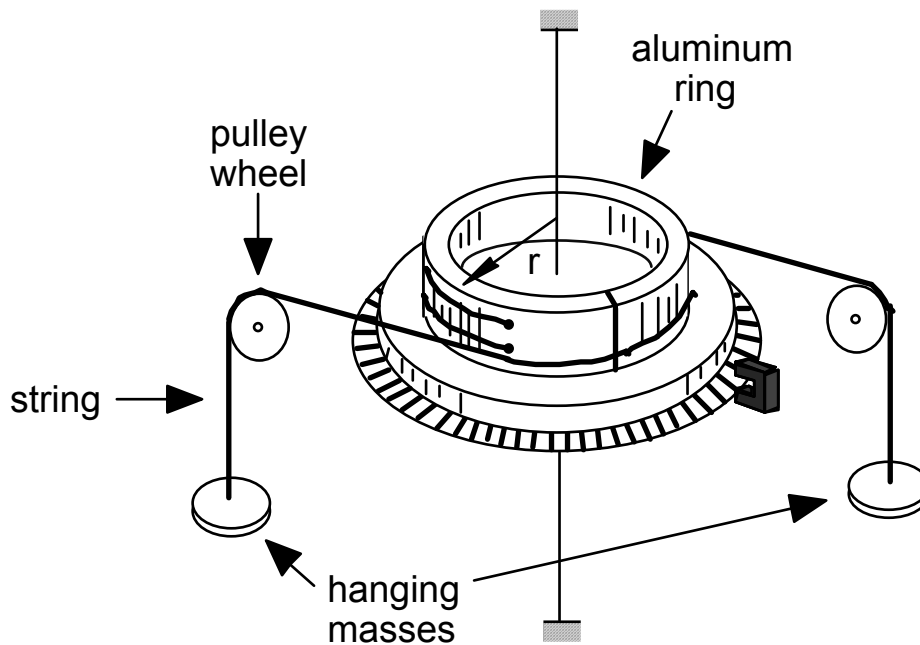

Figure 3. Torsion pendulum setup for Activity 1
Introduction: In this activity you will study the balancing of two opposing torques on a pendulum disk, the torque due to two hanging masses and the torque exerted by a wire (see Figure 3), and then determine the torsion constant of the wire.
3. Prepare the experimental setup in Figure 3.
- If you hang a mass M at the end of *each* of the two strings shown in Figure 3, will these masses exert a torque on the pendulum? If not, write “0” below. If so, write an *expression* for the total torque that is exerted by the hanging masses on the pendulum (in terms of M and other known parameters).
- Will the hanging masses in Fig. 3 exert a *net force* on the pendulum? Explain.
- Record in Table 1 the torques that you predict will be exerted on the torsion pendulum when the following masses are placed on the ends of *each* of the two strings (see Figure 3): 5, 10, 15, and 20 grams.
- Drape the two strings over the pulleys as shown in Figure 3.